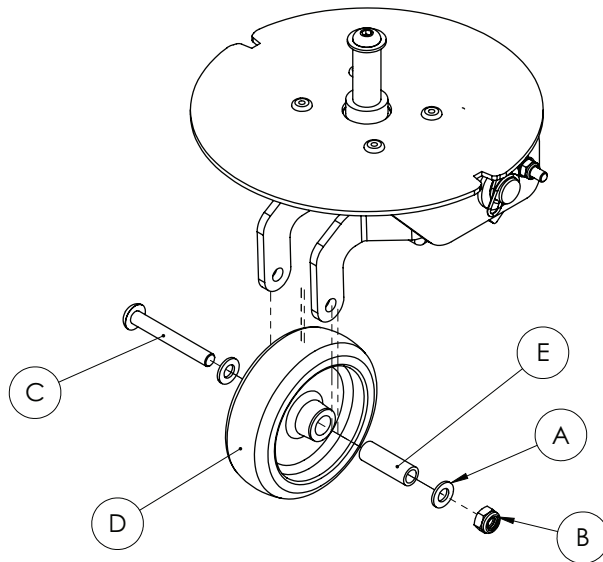

Figure 9 – Fifth wheel lubrication
- Using a 13 mm combination wrench, remove and save the bolt (C), nut (B), and washers (A) from the fifth wheel (D) (Figure 9).
- Remove and apply the polyurea based grease to the wheel bearing (E) surface (Figure 9).